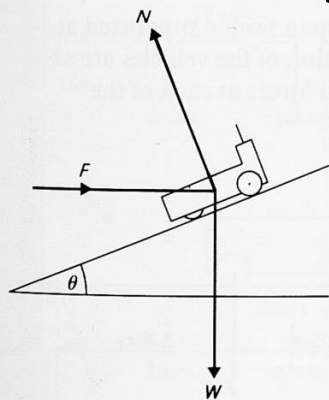

Figure A106
- 38(P)** Figure A106 shows a dynamics trolley of weight  $W$  placed on a runway at an angle  $\theta$  to the horizontal. It is held in place by a horizontal force,  $F$ .  $N$  is the force on the trolley normal to the runway.